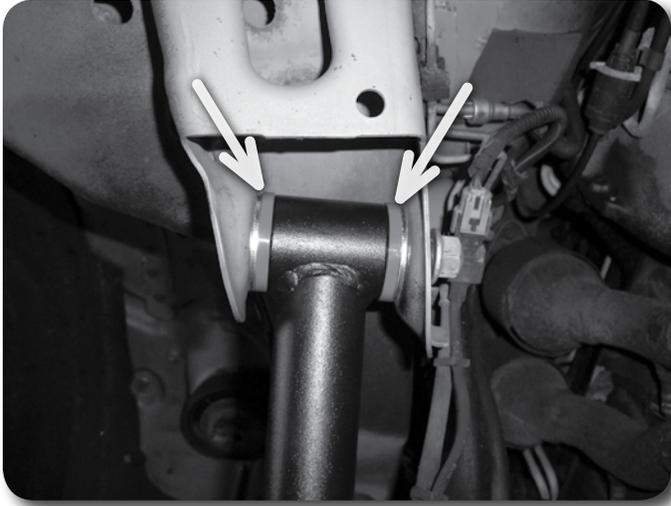

Figure 7A
- Working on one side of the vehicle at a time, remove the lower control arm from the vehicle. Install the new control arm assembly in the frame and axle mounts **Figure 7A, 7B** with the factory hardware (refer to step #2 for correct orientation). At the frame end, install a provided spacer washer on each side of the control arm end between the bushing face and the bracket. Leave hardware loose.